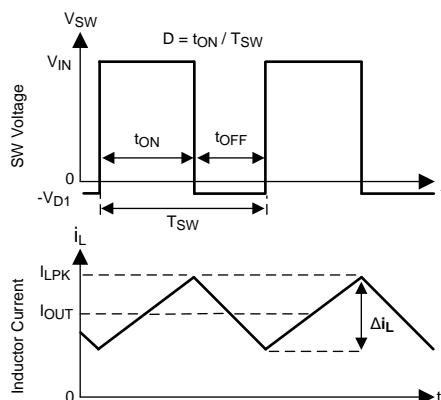

Figure 25. SW Node and Inductor Current Waveforms in Continuous Conduction Mode (CCM)
The following operating description of the LM43602 will refer to the Functional Block Diagram and to the waveforms in Figure 25. The LM43602 is a step-down Buck regulator with both high-side (HS) switch and low-side (LS) switch (synchronous rectifier) integrated. The LM43602 supplies a regulated output voltage by turning on the HS and LS NMOS switches with controlled ON time. During the HS switch ON time, the SW pin voltage V_{SW} swings up to approximately V_{IN} , and the inductor current i_L increases with a linear slope $(V_{IN} - V_{OUT}) / L$. When the HS switch is turned off by the control logic, the LS switch is turned on after a anti-shoot-through dead time. Inductor current discharges through the LS switch with a slope of $-V_{OUT} / L$. The control parameter of Buck converters are defined as Duty Cycle $D = t_{ON} / T_{SW}$, where t_{ON} is the HS switch ON time and T_{SW} is the switching period. The regulator control loop maintains a constant output voltage by adjusting the duty cycle D . In an ideal Buck converter, where losses are ignored, D is proportional to the output voltage and inversely proportional to the input voltage: $D = V_{OUT} / V_{IN}$.